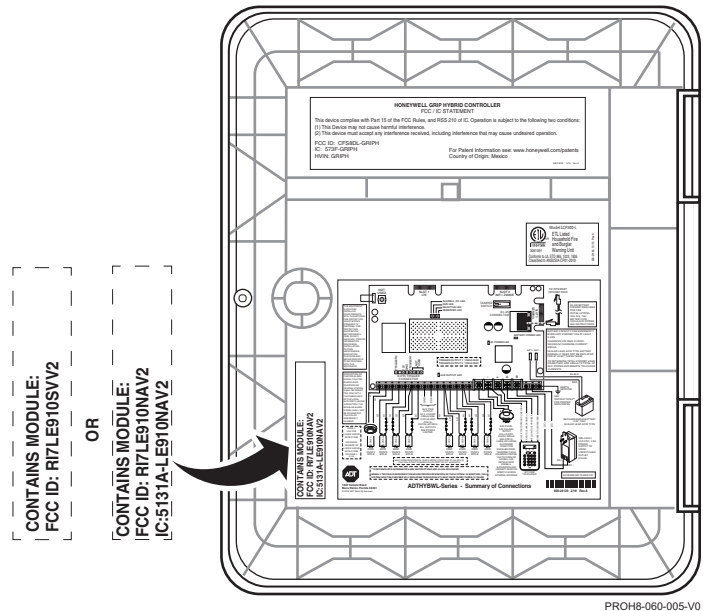

Figure 3. FCC/IC Label Location
1. Affix the provided FCC/IC label (P/N 800-25167 for the PROLTE-A, 800-25168 for the PROLTE-V OR 800-25170 for the PROLTE-CN) on the PROH8PLUS cabinet (refer to Figure 3).